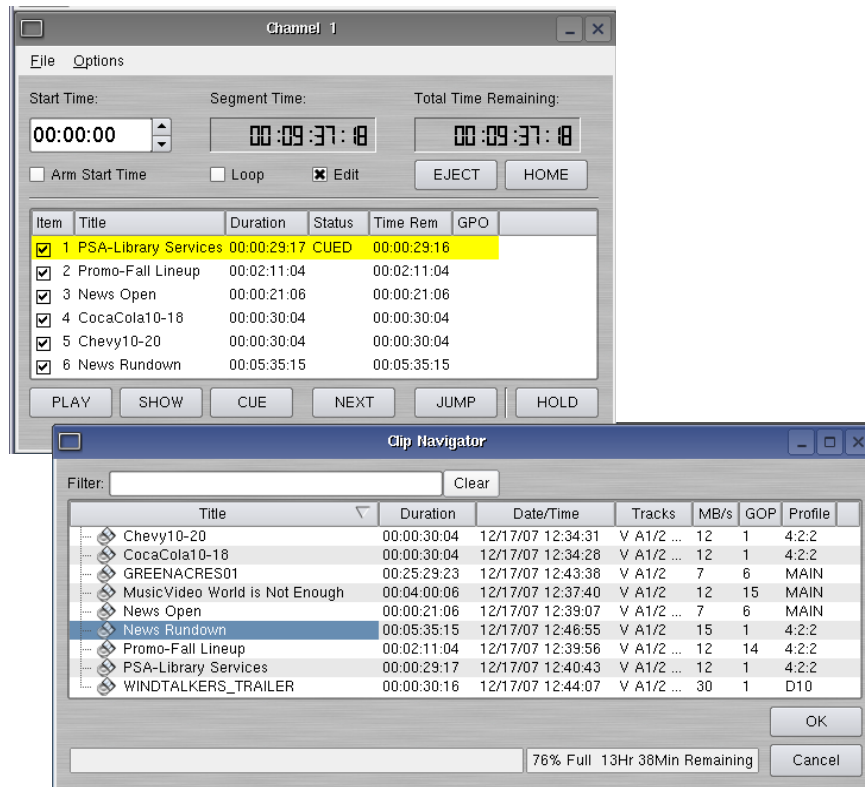

Figure 23 - Channel 1 Playlist with Clip Navigator
1. Change the transport for Channel 1 to the **Playlist View**. Click **FILE->PLAYLIST** in the Channel 1 transport pulldown menu. The window of Figure 23 appears.